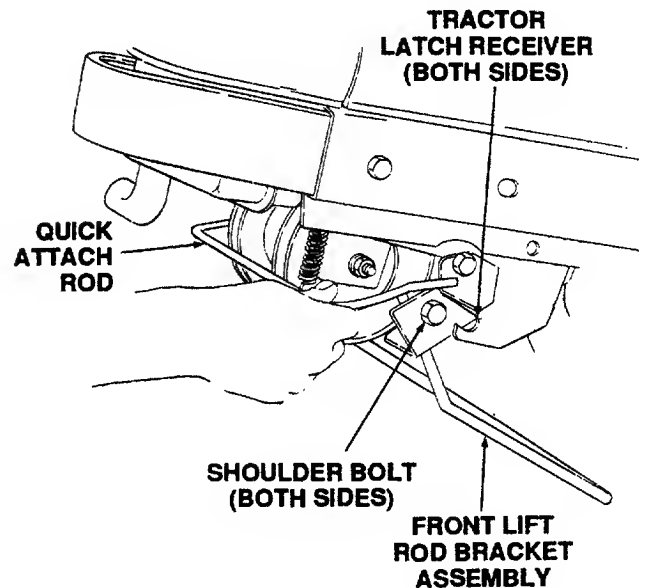

Figure 48
7. Refer to Figure 48 to determine the proper positioning of the front lift rod bracket assembly. Push downward and hold the tractor quick-attach rod. Slide the left and right shoulder bolts of the